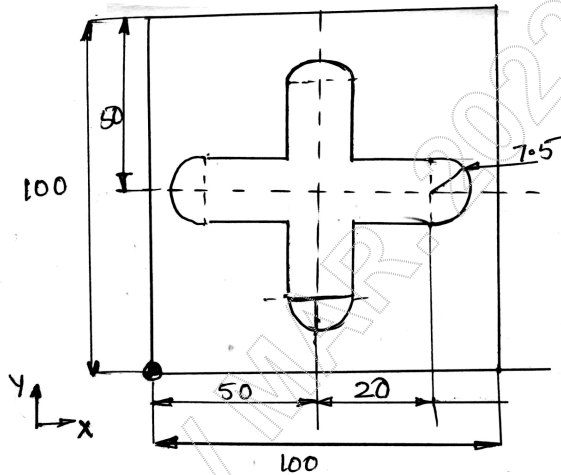

Fig Q8(b)
- b. Develop a CNC part program for the part shown in Fig Q8(b). Assume thickness of 15mm and hole depth as 10mm.